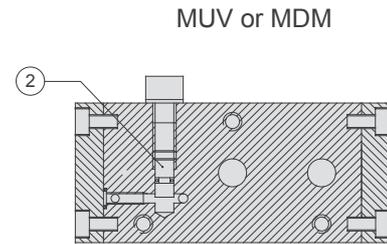

Fig. 30
1. Stroke limiter (see fig. 30, 5)